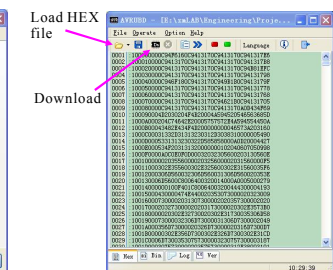

Fig. 12
- 6) Click on the Open File icon to load into avrubd the new firmware you have downloaded. Click on the download icon to start downloading (see Fig. 12). You should see avrubd is talking to oscilloscope by sending connection key continuously.